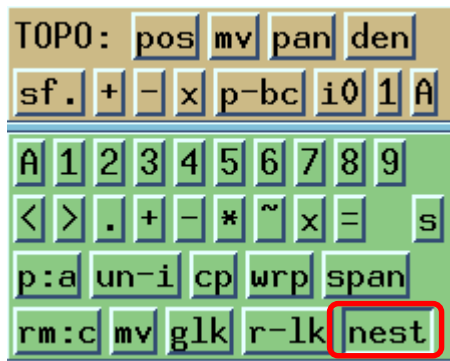

Figure 9.1
- Select the **nest** option in TOPO sub-command panel shown in figure 9.1